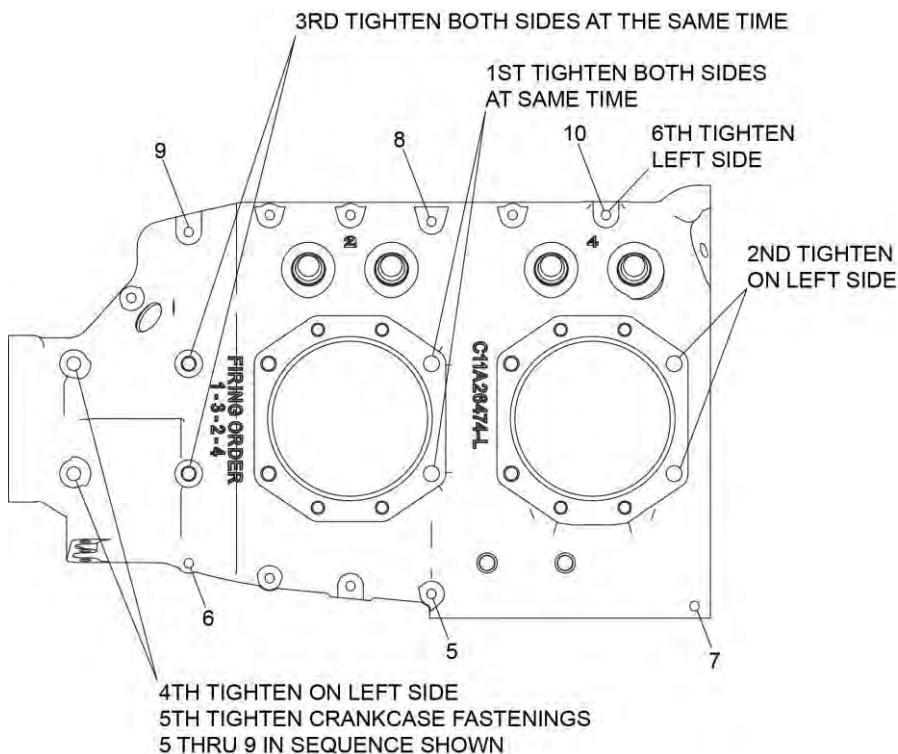
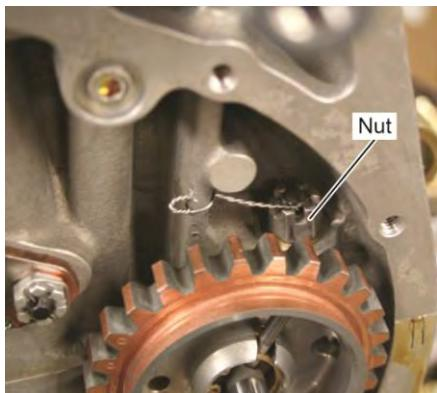

Figure 76
Figure 77
- (15) Torque the nuts installed on the thru-studs at the mating flanges on the crankcase halves in the sequence shown in Figure 76 to attach the crankcase halves securely as follows:
- Torque the $\frac{1}{4}$ -in. nuts at positions 5 thru 9 (in the order shown in Figure 76) to 96 in.-lb. (11 Nm).
- (16) Make sure all fasteners on the crankcase are torqued correctly and none are loose.
- (17) Install the 3/8 in. (9.53 mm) slotted nut and washer on the stud at the rear camshaft bearing (Figure 77). Torque the nut to 215 in.-lb. (24 Nm). Safety wire the nut as shown in Figure 77.